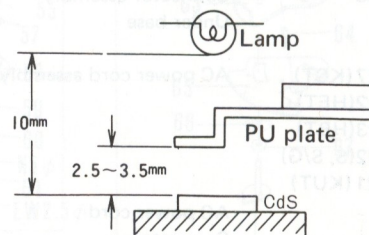

Fig. 5-4
2. The distance between the CdS block and shutter should be 2.5 to 3.5mm, and the distance between the CdS and the lamp 10mm (see Fig. 5-4). Also check that there is no other light source effecting the CdS.